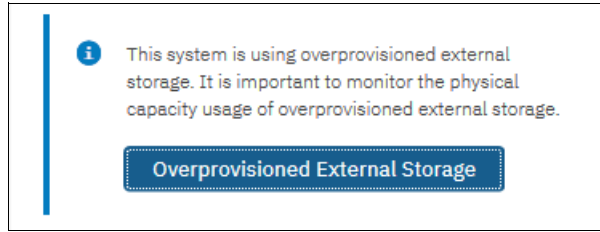

Figure 9-24 Dashboard button for overprovisioned storage monitoring
- ▶ The GUI dashboard, as shown in Figure 9-24.